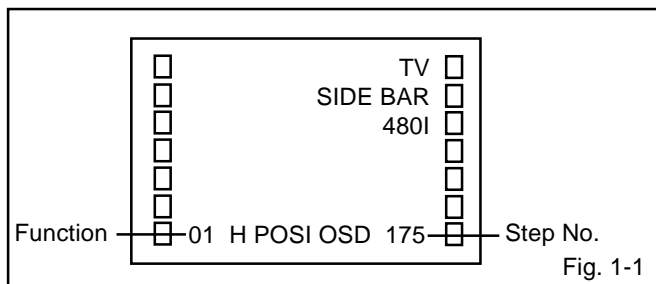

Fig. 1-1
2. Press the VOL. DOWN button on the set and the channel button (9) on the remote control for more than 2 seconds to display adjustment mode on the screen as shown in **Fig. 1-1**.
3. Activate the adjustment mode display of **Fig. 1-1** and press the channel button (40) on the remote control to select "CONTRAST MAX".
20. Activate the adjustment mode display of **Fig. 1-1** and press the channel button (40) on the remote control to select "CONTRAST MAX".
5. Activate the adjustment mode display of **Fig. 1-1** and press the channel button **(03)** on the remote control to select "R DRIVE(N)".
7. Adjust the LEFT/RIGHT button on the remote control to whiten the R CUT OFF(N), B DRIVE(N), B CUT OFF(N), R DRIVE(C), R CUT OFF(C), B DRIVE(C), B CUT OFF(C), R DRIVE(W), R CUT OFF(W), B DRIVE(W) or B CUT OFF(W) at each step tone sections equally.
3. Activate the adjustment mode display of **Fig. 1-1** and press the channel button **(40)** on the remote control to select "CONTRAST MAX".
20. Activate the adjustment mode display of **Fig. 1-1** and press the channel button **(40)** on the remote control to select "CONTRAST MAX".